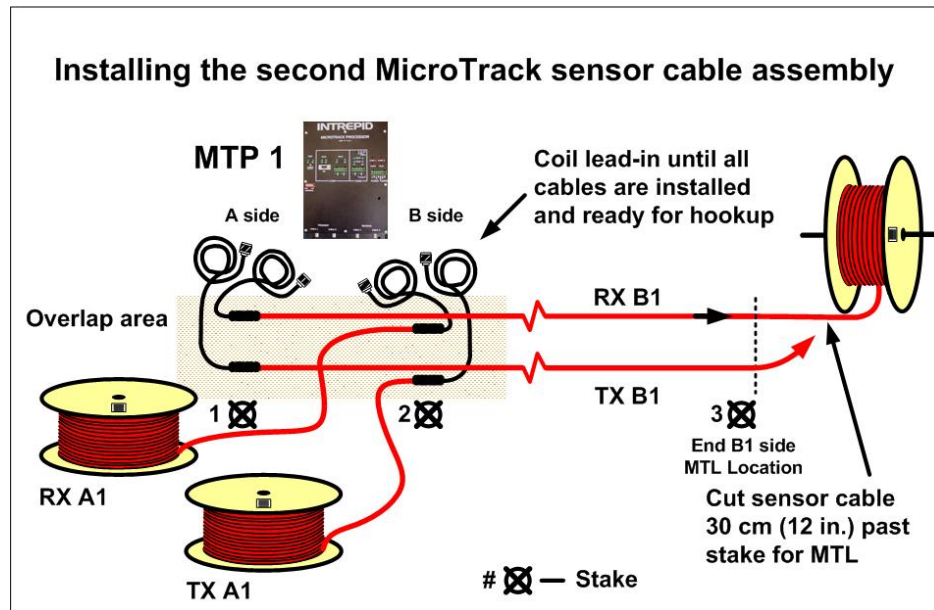

Figure 5.10 Installing the Second Sensor Cable Assembly
2. In line with stake #2, the start of the A side sensor cable, spool-off the RX A lead-in cable and about 4 m (6 ft.) of sensor cable. Lay the sensor cable and the spool on the ground away from the startup overlap area near spool TX A, as shown below in Figure 5.10.
3. Position the lead-in/sensor cable junction at the beginning of the startup overlap area inline with stake #2, as shown below in Figure 5.10.
7. Position the lead-in/sensor cable junction at the beginning of the startup overlap area next to stake #1, as shown below in Figure 5.10. Cover the lead-in cable and the sensor cable with soil for a distance of about 1 m (3 ft.) each side of the junction.